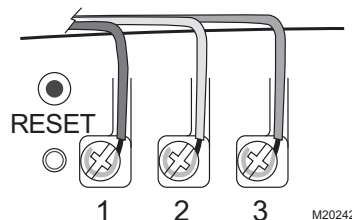

Fig. 7. Looping Envirocom appliance or common node wire around UV Envirocom base screw terminals.
14. Hook up corresponding appliance wires to the Envirocom communication bus located on the bottom of the UV device base. Be sure to loop wire of other Envirocom appliances or Envirocom common node around the UV base Envirocom screw terminals 1, 2 and 3. See Fig. 7.